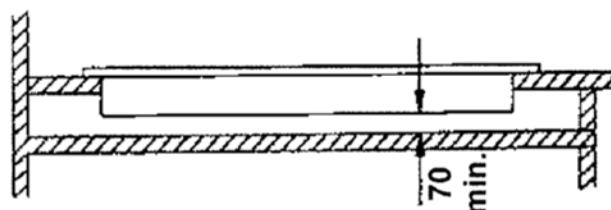

FIG. 10
- In order to avoid accidental touch with the overheating bottom of the hob, during the working, is necessary to put a wooden insert, fixed by screws, at a minimum distance of 70 mm from the top (see fig. 10)